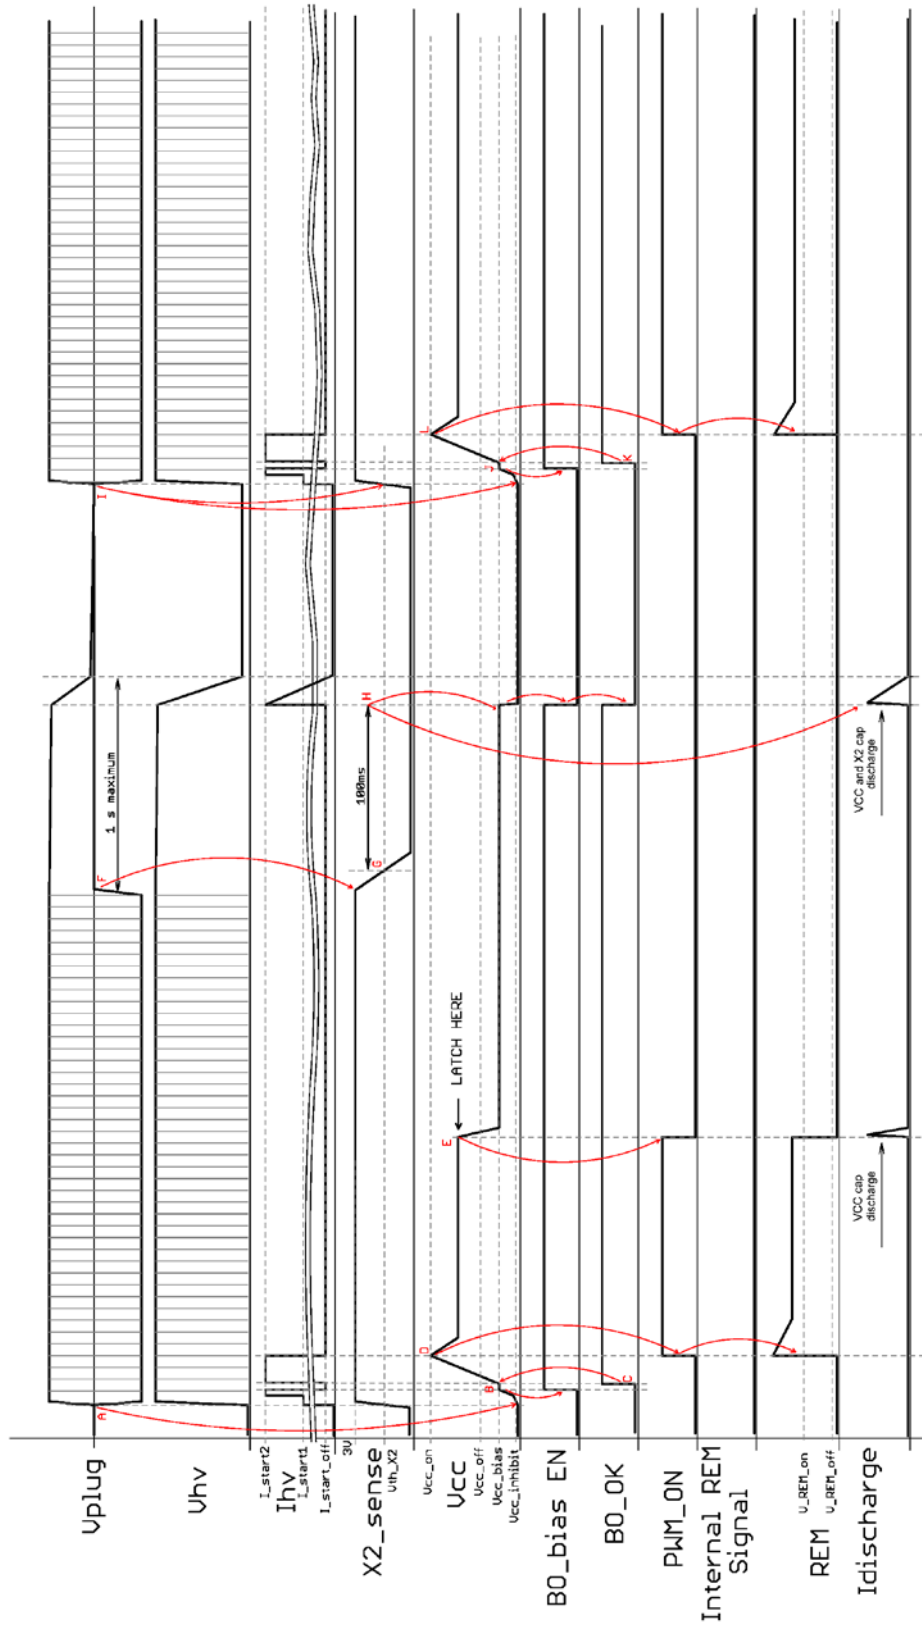

Figure 55. IC Operation Sequencing – Case 5 (Active OFF)
5. *Application start, latch-off after 120 ms, AC line restart – Figure 55:*